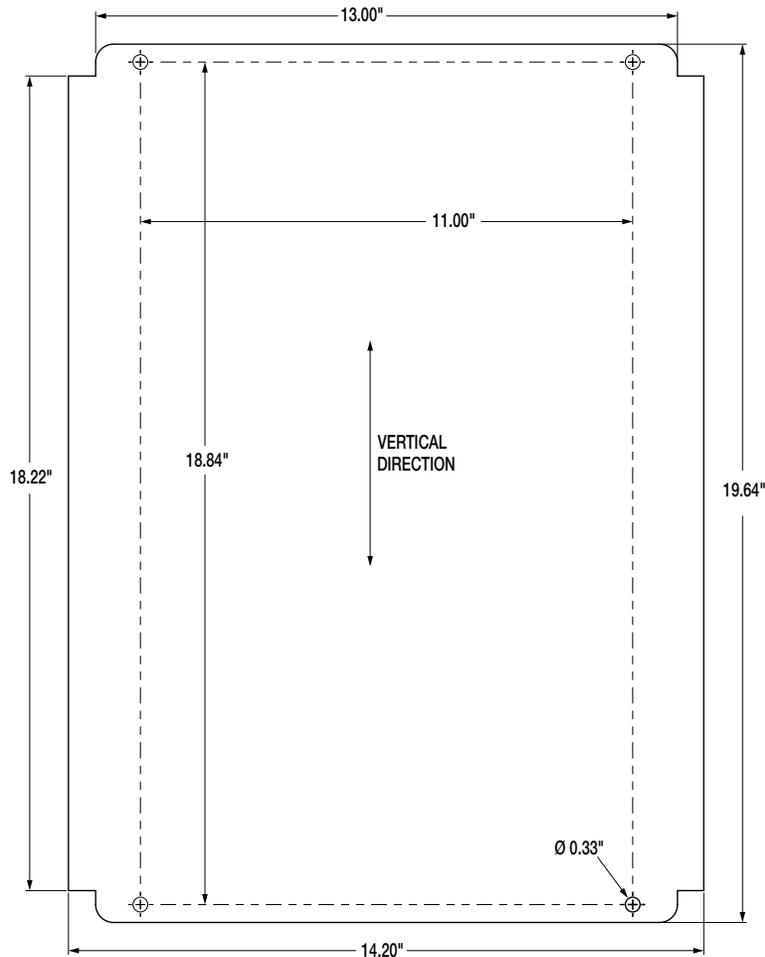

Figure 2-14. Wall Mount Dimensions
1. Using the wall mount as a template, mark the screw locations. See Figure 2-14 on page 26 for dimensions.
This illustration is not to scale. It is for illustration purposes only. Use the dimensions to mark the holes for the wall mount. Do not use Figure 2-14 as a template.